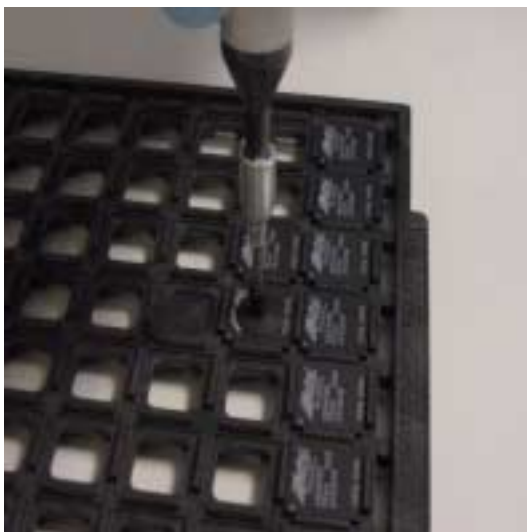

Figure 1 • Vacuum Wand
1. Position the vacuum needle at the proper angle so that your index finger can rest on the vacuum switch (Figure 1).